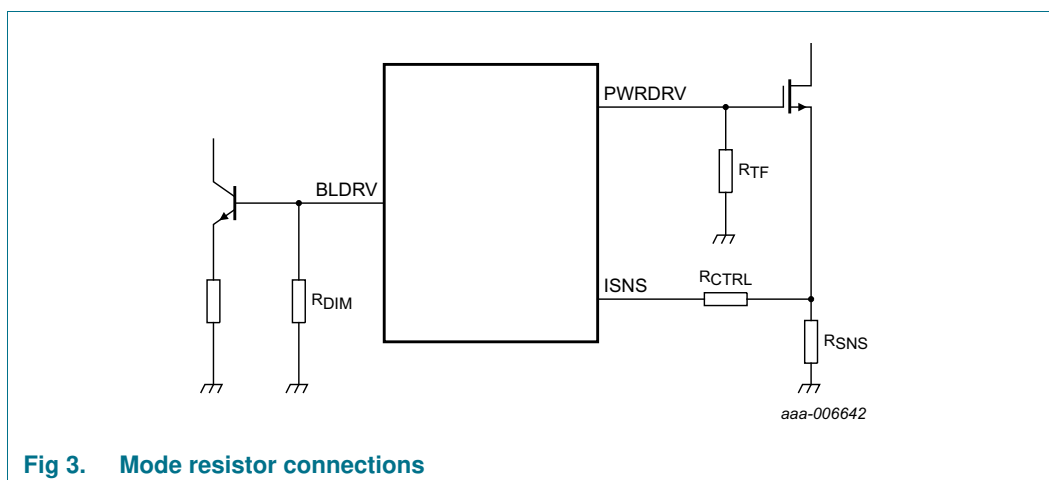

Fig 3. Mode resistor connections
The ISNS pin senses the voltage across the sense resistor,  $R_{SNS}$ , generated by the inductor current flowing through the external MOSFET and this resistor (see Figure 3).
Mode resistors  $R_{TF}$  and  $R_{DIM}$  at the PWRDRV and BLDRV pins are connected between the pin and ground. Mode resistor  $R_{CTRL}$  at the ISNS pin is connected between the pin and the external MOSFET source (see Figure 3).
- $R_{SNS}$  is the sense resistor on pin ISNS (see Figure 3)